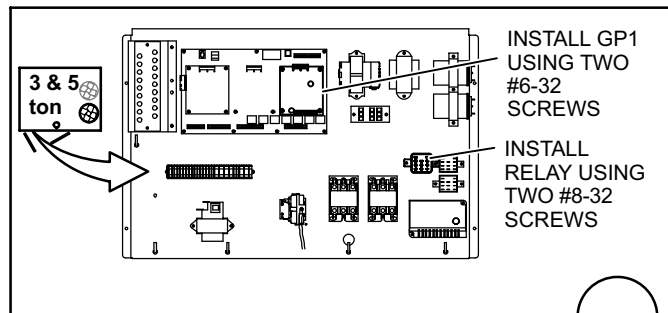

Figure 1. Installing Relay (K92) and General Purpose Board (GP1) (SCA/SGA036/060)
3. Install the relay provided in the location shown in Figures 1, 2, or 3 (depending on unit size) with the two #8-32 screws provided.
4. On SCA/SGA036/060 units, install the GP1 board provided in the location shown in Figure 1 with the two #6-32 screws provided.